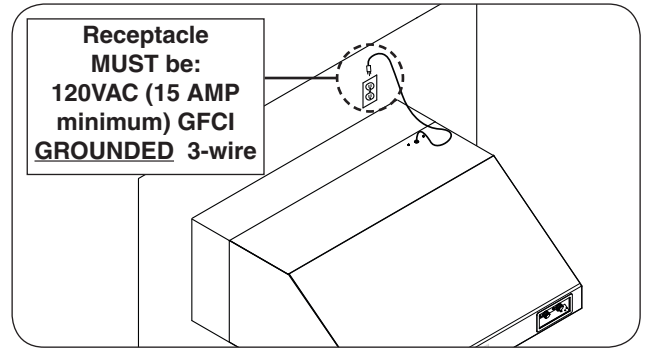
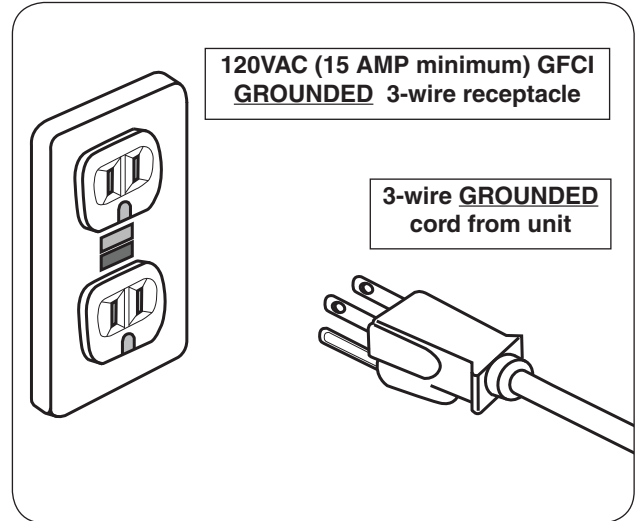

Fig. 18-1 Install receptacle & connect power cord
Fig. 18-2 Electrical setup detail
A **120VAC (15 AMP minimum) GFCI GROUNDED 3-wire receptacle** (not included) is required within the vicinity of the vent hood to provide power to the unit. The area above the vent hood that the soffit / duct cover will enclose is an ideal location (reference Fig 18-1). Your individual installation may vary.
1. Wire the receptacle near the top right of the unit (see Fig 18-1).
2. Connect the power cord coming from the top right of the unit to the **120VAC (15 AMP minimum) GFCI GROUNDED 3-wire receptacle** (see Fig. 18-1 and Fig. 18-2).